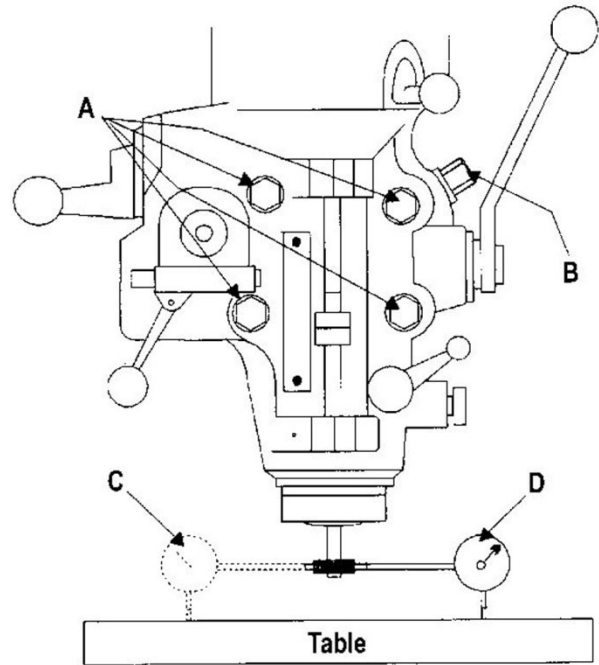

Figure 9
1. Loosen four large hex nuts (A, Figure 9) that secure mill head to ram adapter. One-quarter (1/4) turn should be sufficient to allow head to move.
2. Turn worm nut (B, Figure 9) to tilt head left or right as required. Use scale on ram adapter to establish angle.
5. Set up a dial indicator in a collet (see Figure 9) and secure using draw bar.
- c. Set up a dial indicator in a collet and secure using draw bar (refer to Figure 9).